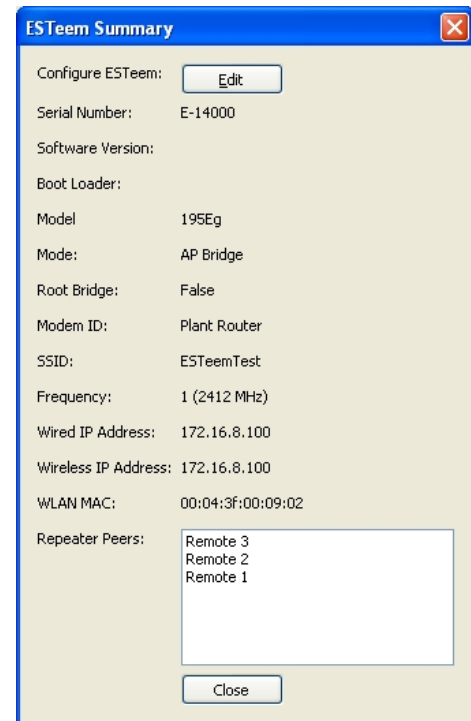

Figure 20: ESTeem Summary Page
- By default, the ENC Utility sets all ESTeem modems in AP Bridge mode. To change the Plant Router ESTeem to AP Router mode, double-click on the icon to bring up the ESTeem Summary window and press the Edit button (Figure 20).
3. By default, the ENC Utility sets all station mode ESTeem modems to EtherStation mode. The only adjustment necessary to the EtherStation modem in our example is to enter the connected Ethernet device's MAC address. The ESTeem 195Ea will "clone" the Ethernet MAC address of the connected Ethernet device. To configure the EtherStation modem, double-click on the icon to bring up the ESTeem Summary window and press the Edit button (Figure 20).
6. To configure the two other modems, double-click on their icons to bring up the ESTeem Summary window and press the Edit button (Figure 20).